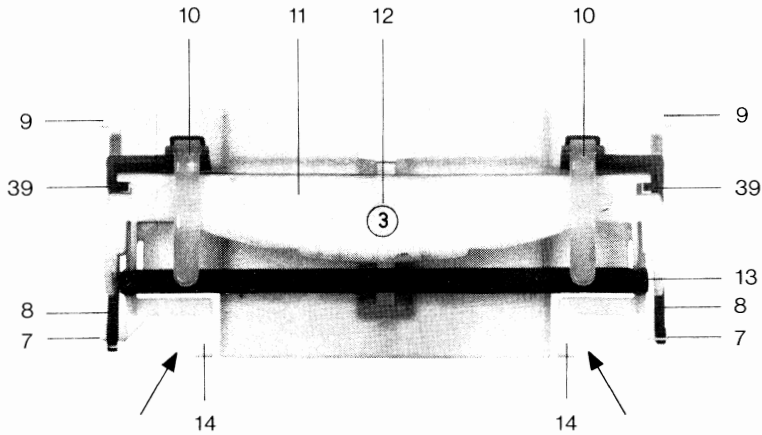

Fig. 4 Ink ribbon magazine
- e) ink ribbon magazine (Fig. 4)
The bottom carrier (e. g. violet ribbon for channel 1) is pushed forwards out of the magazine by a pusher arm and is held in the printing position by two spring clips (8, Fig. 4).